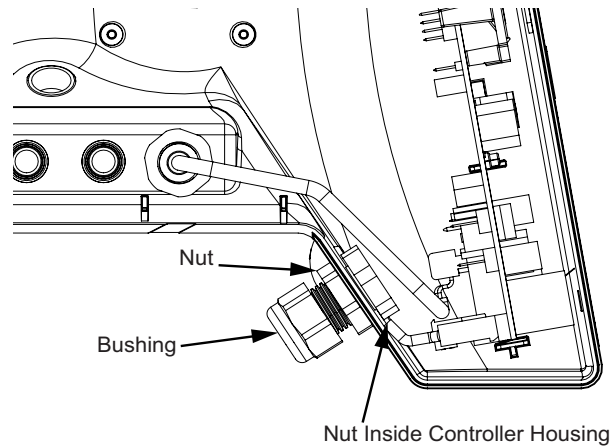

Figure 23. Connector bushing and nut position.
4. Tighten the nut on the interior side of the port opening on the controller enclosure. See Figure 23.
8. Insert the 24V and 2.5VAC power cords through the shared bushing (P/N 01025264). See Figure 23.
14. Tighten the nut on the interior side of the port opening on the controller enclosure. See Figure 23.